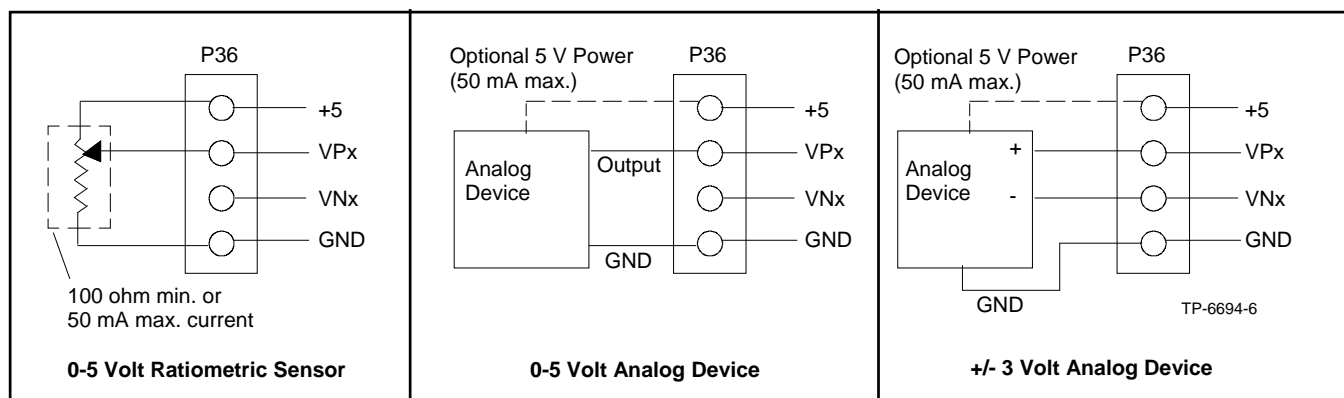

Figure 68 Dry Contact Kit Analog Input Connections P36
5. See Figure 68 for connections of analog inputs.
6. Select the normally open (NO) contacts of the relay, Form A dry contact, depending upon the application. Use a two-wire harness for the NO connections.